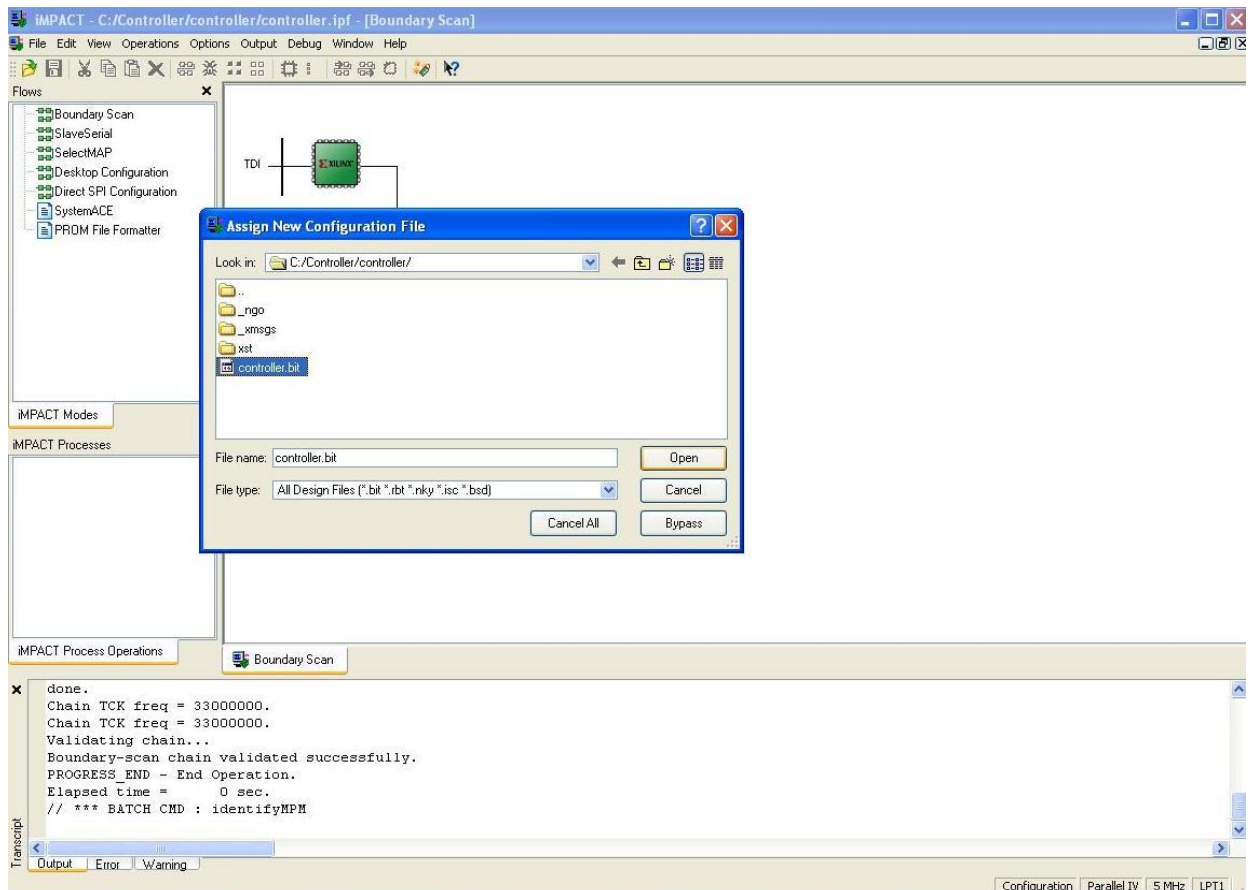

Fig 3.26: Assigning Configuration File
5. The **Assign New Configuration File** dialog box opens. Now assign the **Controller.bit** file which can be viewed from Fig 3.26 to the device found in the JTAG chain.